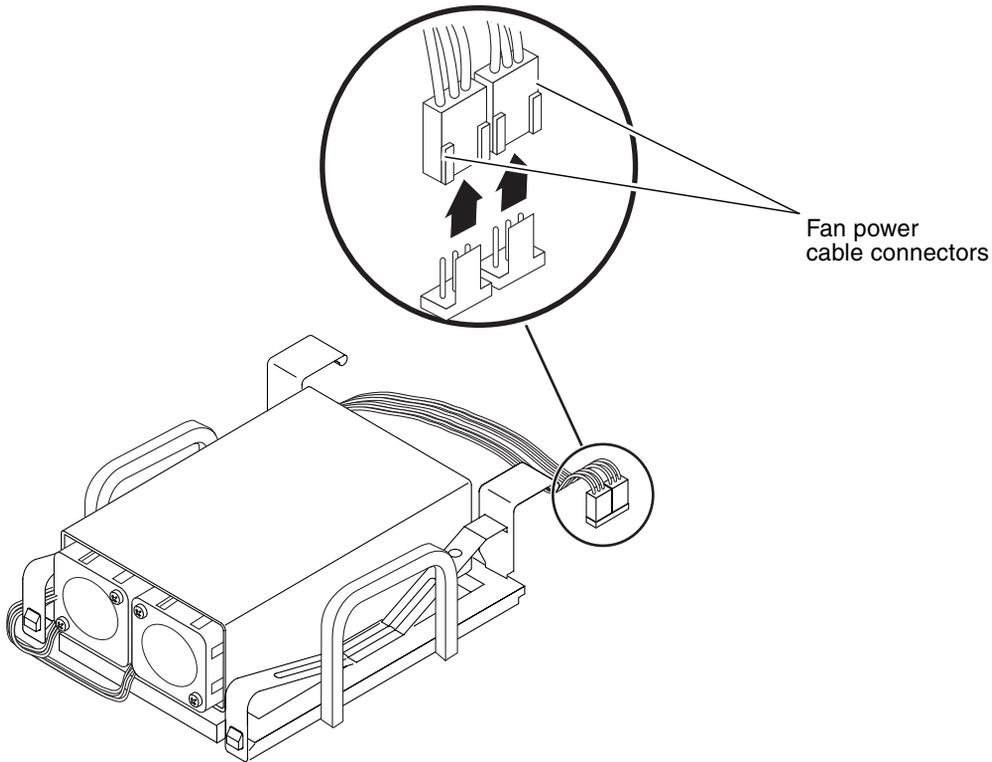

FIGURE 5-19 Detaching the Fan Power Cables
3. Detach the fan power cable connectors from the system board (FIGURE 5-19).